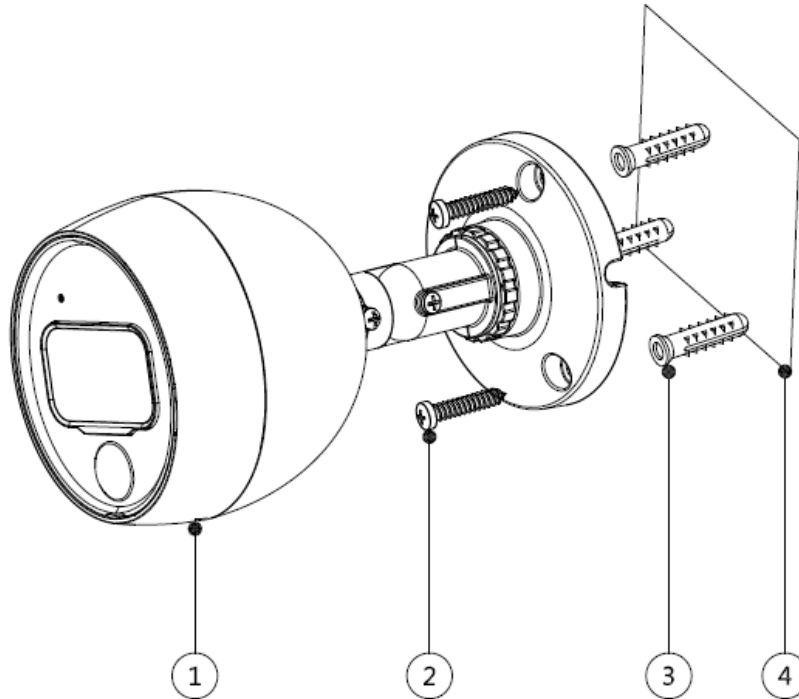

Figure 4-1
- If it is cement wall, first it needs to install expansion bolt ③ (mounting hole sites of expansion bolt need to be in accordance with those of the bracket), and then install bracket, which is shown in Figure 4-1.
- If it is wooden wall, you can skip the first step, use self-tapping screw ② to install bracket directly.